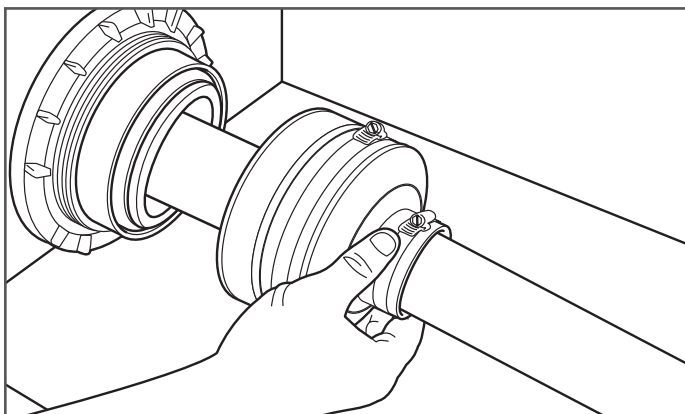
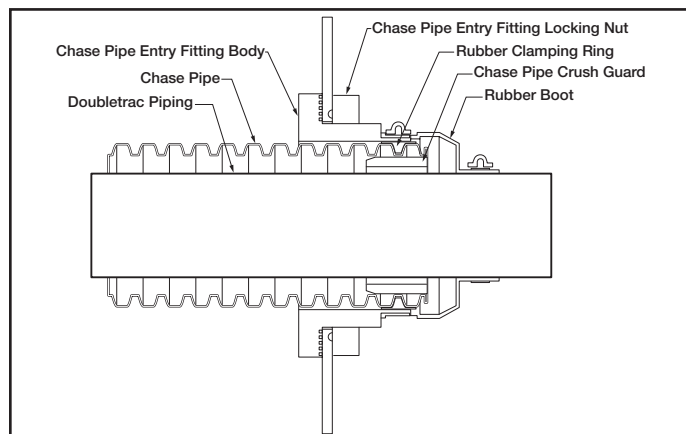

Figure 23-11
Figure 23-14
9. Ensure Rubber Clamping Ring is aligned under the Rubber Boot band clamp per Assembled Chase Pipe Cross Section View (Figure 23-14). Slide rubber boot over DoubleTrac® piping and ensure the rubber boot bottoms out onto the rubber edge of the entry fitting (Figure 23-11).
Assembled Chase Pipe Cross Section View (Figure 23-14):